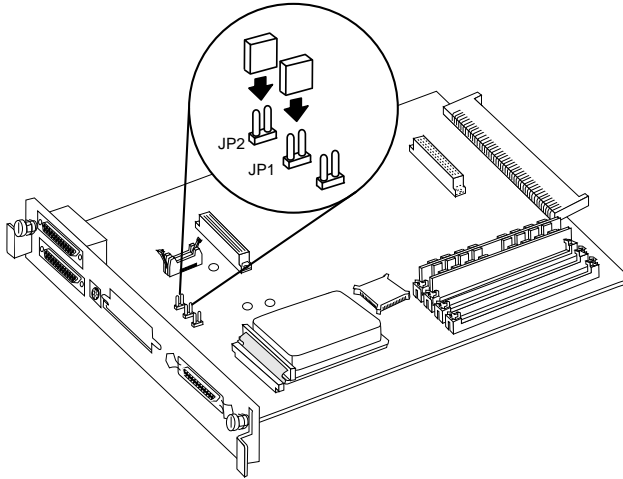

Fig. 8.22 *Place the Shunts on the Jumpers*
4. Place the two shunts on jumpers JP1 and JP2 (fig. 8.22). Make sure both sets of pins are covered by the shunts.